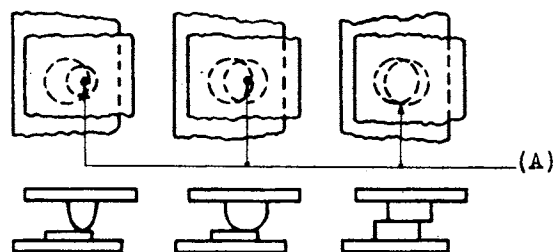

Fig. 9
2.09 Contact Alignment - Fig. 9 (A) - The contacts shall line up so that the point of contact falls wholly within the boundary of the opposing contact, except for opposing contacts having the same diameter in which case their centers shall not be out of alignment more than 25% of the diameter of the contacts. Gauge by eye.